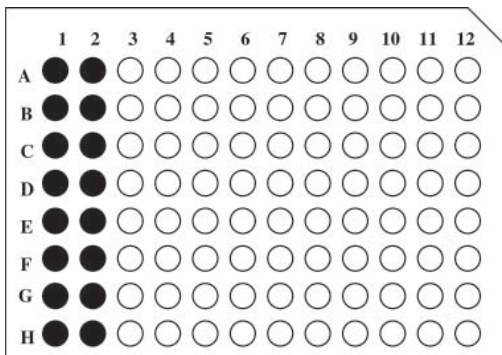

Fig 8.
4. Briefly centrifuge the tube and dispense 10 ml of the DYEnamic ET Terminator Matrix Standard into a 96 well plate as shown in Figure 8. It is essential to centrifuge the plate to position the samples at the bottom of each well.